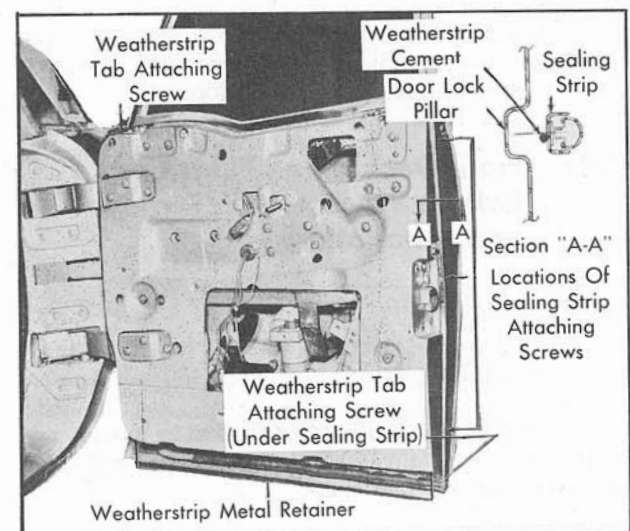

Fig. 17-40 Rear Door Weatherstrip Attachment
2. Loosen rear door lock pillar sealing strip attaching screws sufficiently to remove weatherstrip tab attaching screw located under lower end of sealing strip, Fig. 17-40.
4. Carefully bend down tabs of metal retainer along bottom of door, Fig. 17-40.
3. Through inner panel access hole, remove three nuts and cup washers securing sealing strip to door lock pillar at locations indicated in Fig. 17-40. Then, carefully break cement seal and remove sealing strip from door.
4. To install rear door lock pillar sealing strip, first apply a bead of weatherstrip cement (approximately 3/16" in diameter) along the entire length of the sealing strip just inboard of the attaching studs, as shown in inset of Fig. 17-40, then reverse removal procedure.
(61) Side Roof Rail Weatherstrip Retainer Removal and Installation